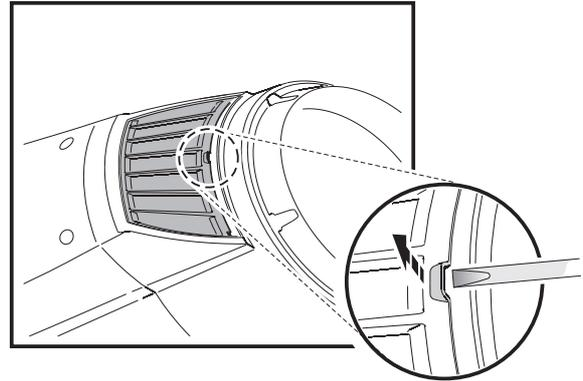

Figure 17: Removing head air filters
2. See Figure 17. On each side of the head, use a flat-bladed screwdriver to lever the front edge of each filter holder slightly away from the head, then slide the screwdriver across to each corner and gently lever each corner free. Pull the filter holders forwards to unclip and remove them.